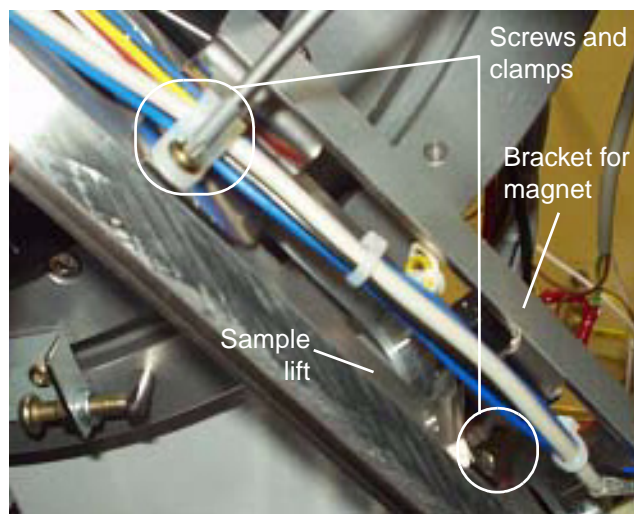

Figure 5.7 - Mount the bracket for the magnet of the beam stop
6. Mount the bracket for the magnet of the beam stop. Secure the slide for the beam stop using the screws and cable clamps as shown in Figure 5.7.